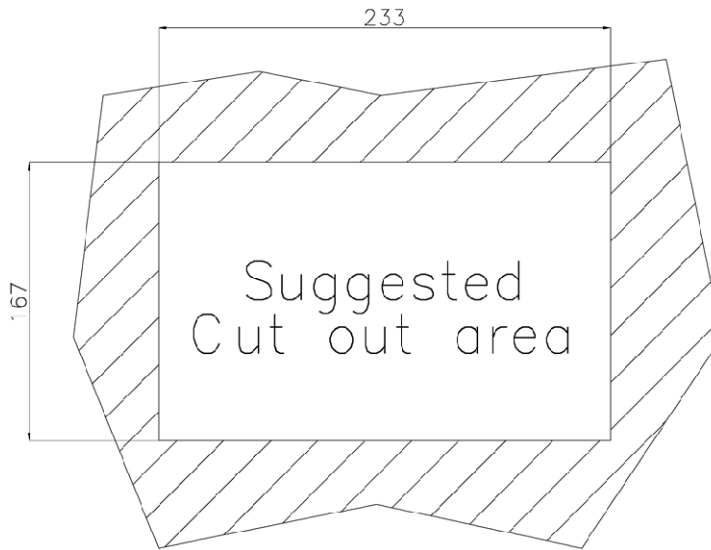
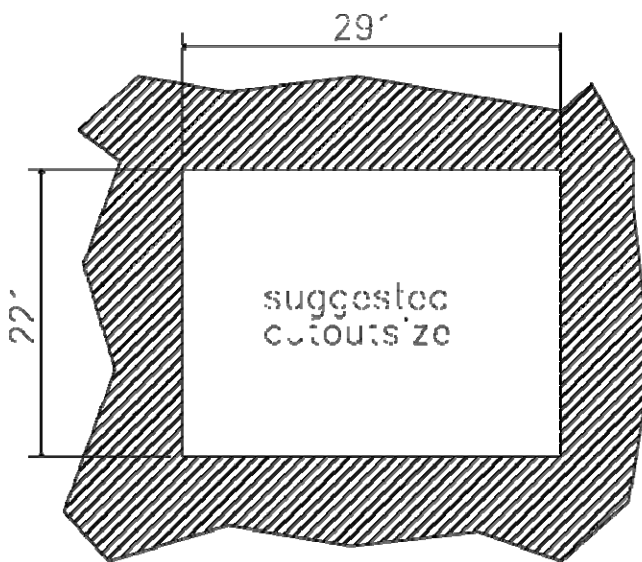

Figure 3-27: PPC-3708A-N26 Panel Cutout Dimensions
Figure 3-28: PPC-3710A-N26 Panel Cutout Dimensions
- Step 2:** Cut out a section of the panel that corresponds to the rear panel dimensions of the panel PC. The recommended cutout sizes are shown below (**Figure 3-27** and **Figure 3-28**).